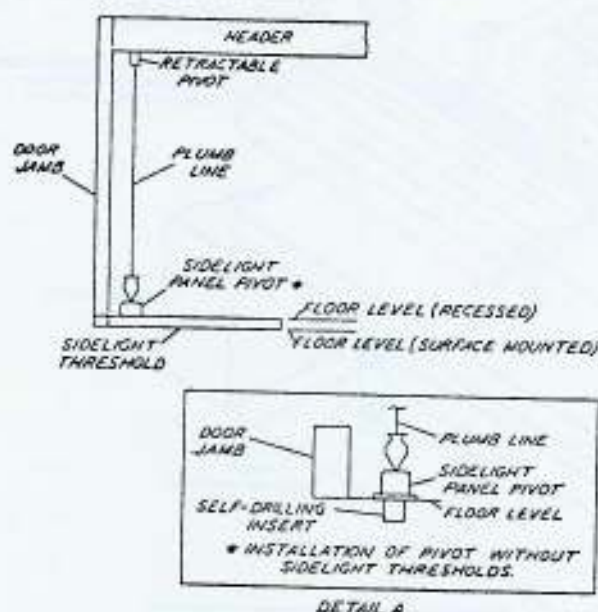
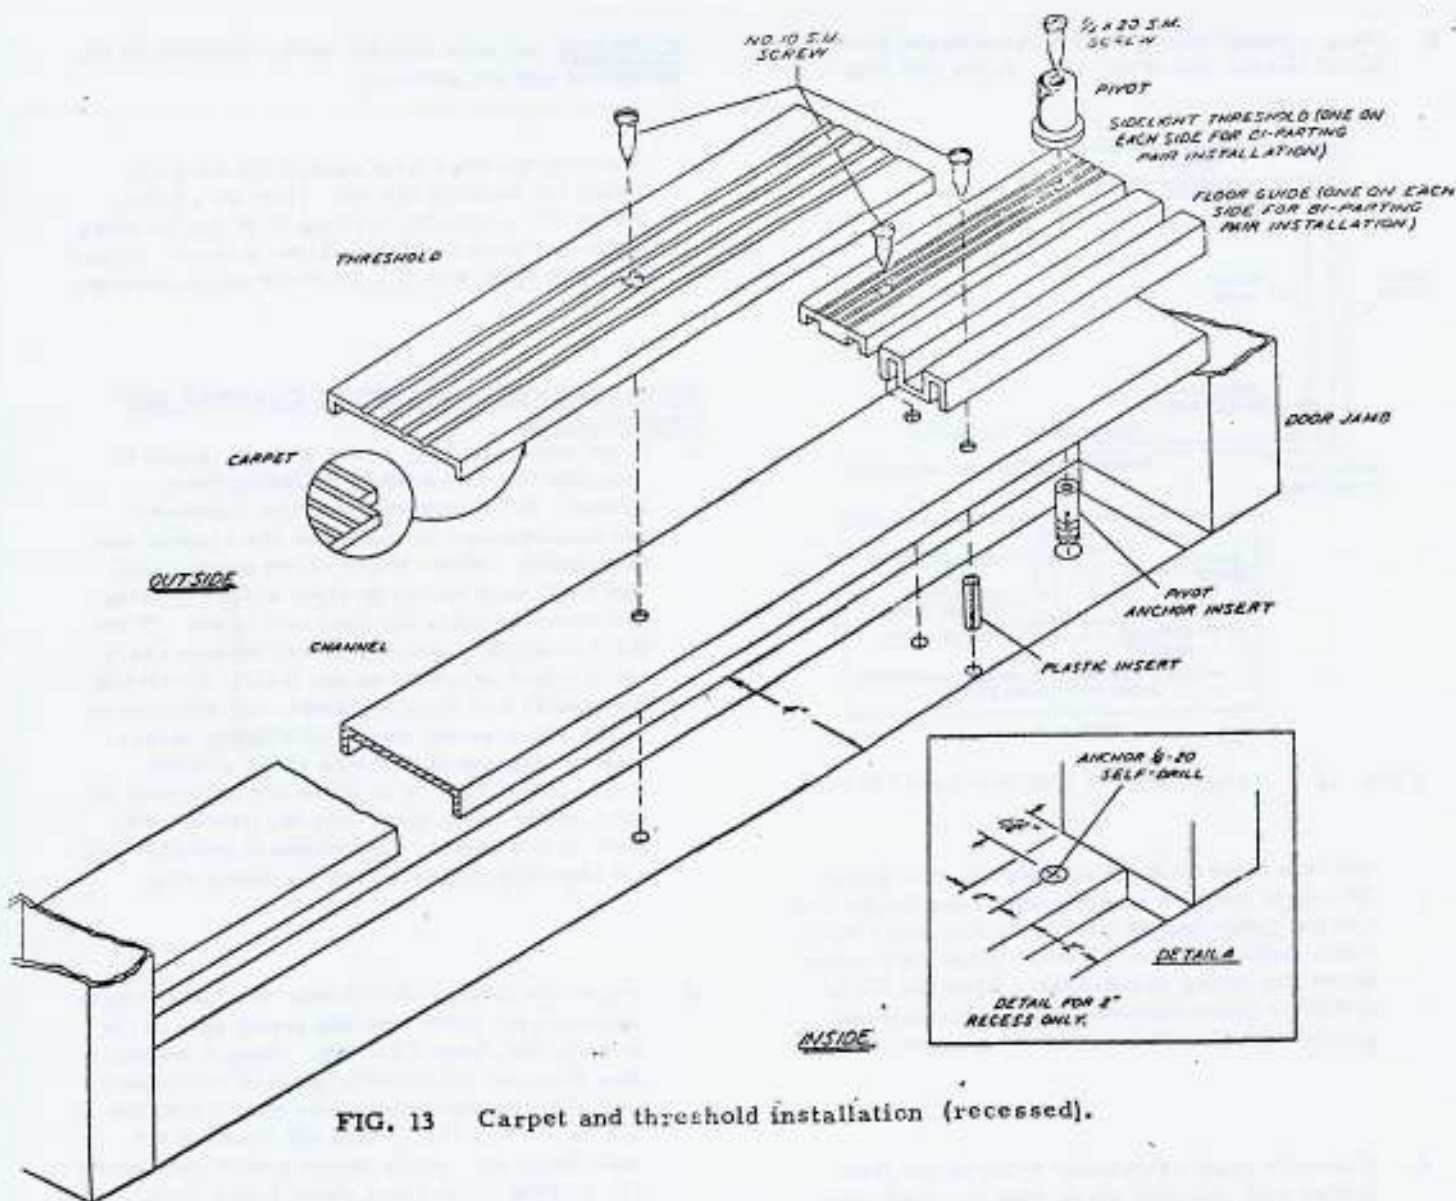

FIG. 12 Alignment of sidelite panel pivots.
FIG. 13 Carpet and threshold installation (recessed).
3. Hang a plumb line from the retractable pivot in the header (see FIG. 12). Place the side-
2. Place the sidelite thresholds into the recesses provided for them with the pivots toward the door jambs, (see FIG. 13). Hang a plumb line from the retractable pivot in the header and align the threshold pivot with the plumb bob (see FIG. 12). Using the holes in the thresholds as a guide locate points underneath for drilling 5/16-holes about 1 inch deep. (see FIG. 13). Remove the thresholds and drill the holes. Tamp in the plastic inserts.